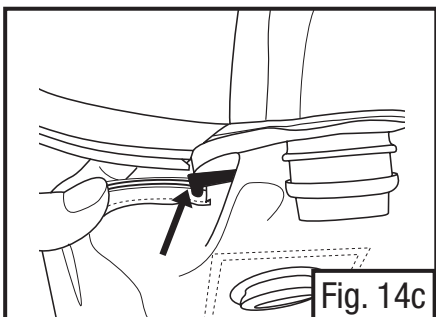

Fig. 14c
- Grasp the black shroud gasket and pull to expose the edge of the gasket where it meets the elastic (Fig. 14c). Align the edge of the gasket with the edge of the groove in the headgear. Press the gasket firmly into the groove in small sections, working your way around the shroud. Start at one end and work around in one direction. When you reach the end of the groove in the headgear on the other side from where you started, the gasket on the shroud may extend slightly beyond the edge of the groove – this is acceptable – but it is critical that both gasket ribs are completely inserted into the groove.